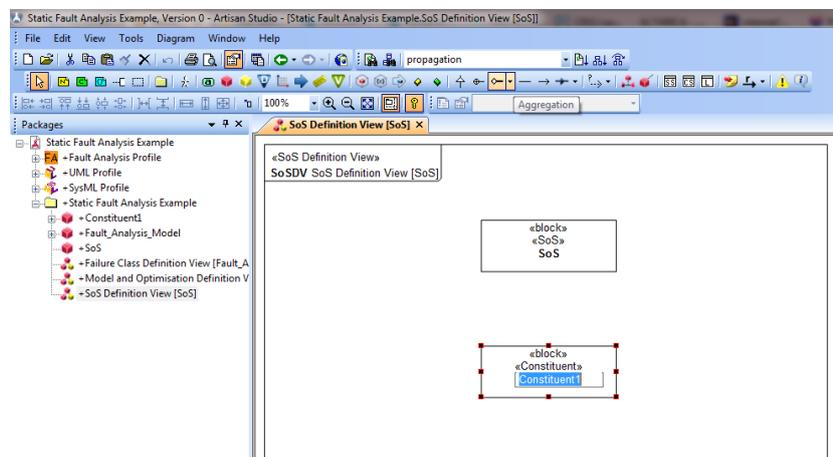

Figure 10: Enter a new name for the *Constituent* if desired
2. A new *Constituent* will be created and you will be prompted to change its name (if desired) as shown in Figure 10